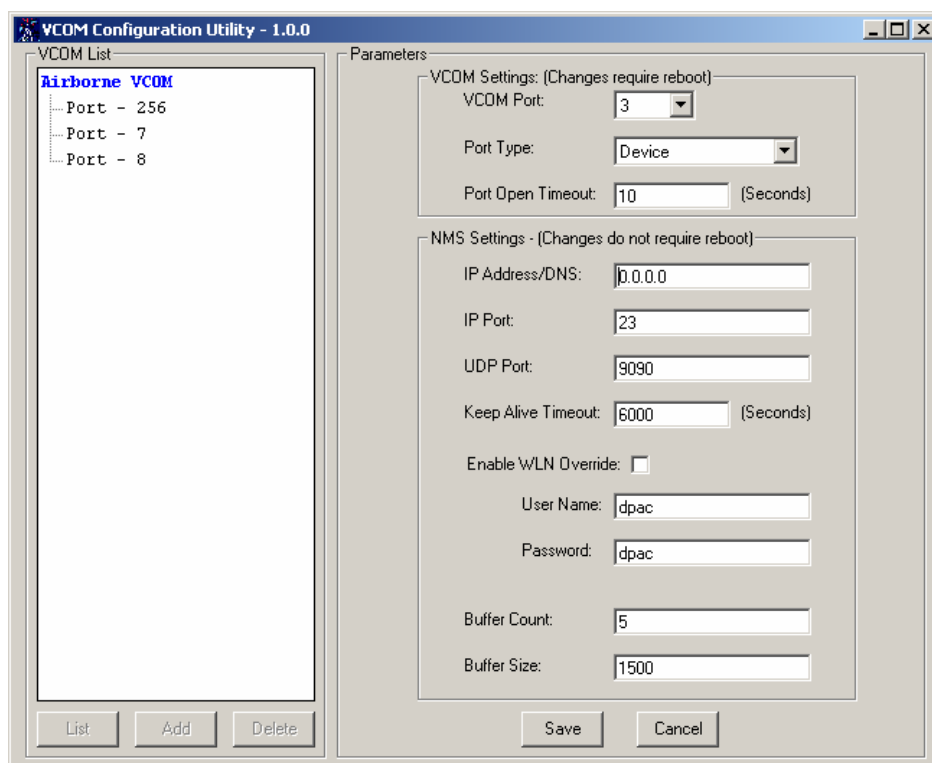

Figure 39. Adding a Virtual COM Port
- Under the **VCOM List** pane, click the **Add** button. The VCOM Configuration Utility window appears as in Figure 39.